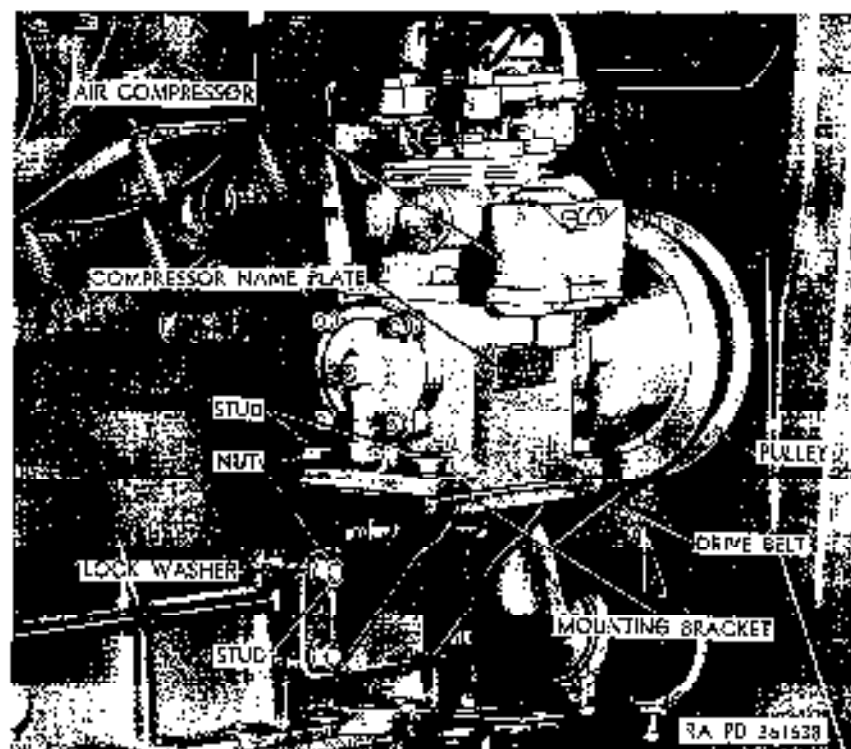

Figure 154. Air compressor mounting.
- (1) *Install radiator upper shield.* Refer to paragraph 1833 (6).
- (2) *Install brush guard.* Slide guard-to-frame-bracket bolts (fig. 154) on bottom of brush guard into slots in top of left and right frame brackets. Push top of brush guard toward rear of truck and engage slots in left and right braces with bolts in brush guard. Tighten guard-to-frame-bracket nuts and bolts and guard-to-brace nuts and bolts.
- (b) Remove four nuts (fig. 154) and lockwashers from compressor bracket mounting studs at front lower right side
- (4) *Install power inlet.* Refer to paragraph 137.
- (5) *Install air compressor.*
- (a) Install new mounting bracket gasket on studs (fig. 154) at front lower right side of crankcase, and slide compressor and mounting bracket on studs.
- (b) Place drive belt (fig. 154) on compressor pulley, and install four washers and nuts on mounting bracket studs. Tighten nuts.